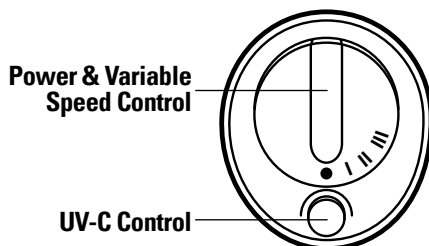

Figure 2
3. Select UV-C ON or OFF using UV-C Power Button (Figure 2).